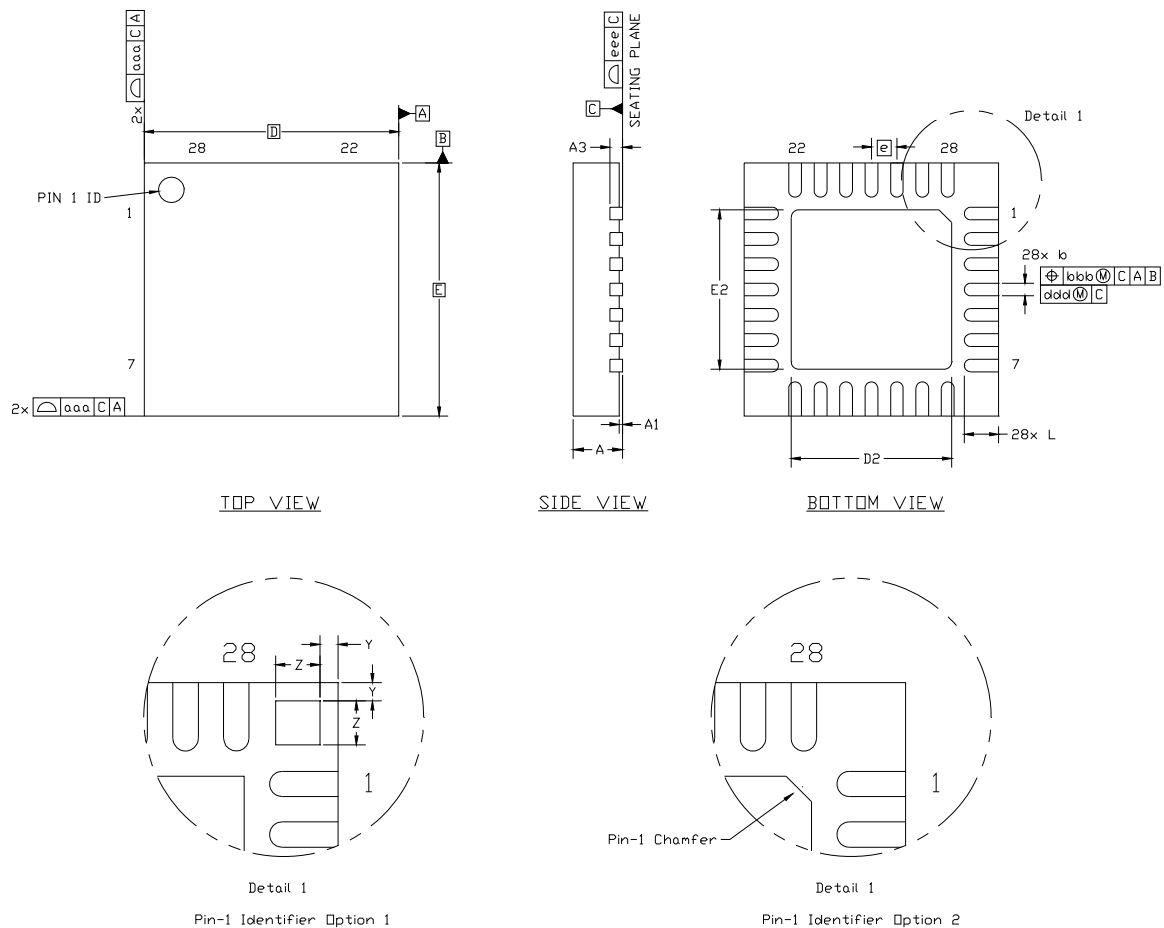

Figure 3. QFN-28 Package Drawing
- Updated package drawings in Figures 3, 4, and 5.